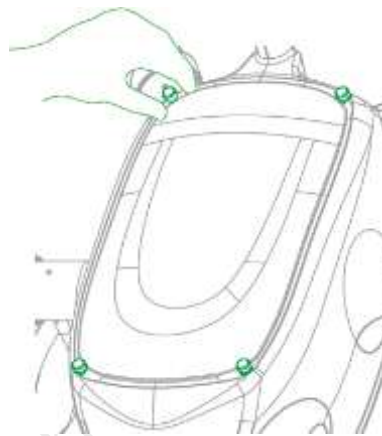

Figure 3-17
- Step 1 Loosen 4 set screws of battery compartment cover and then open the battery cover, as shown in Figure 3-17.